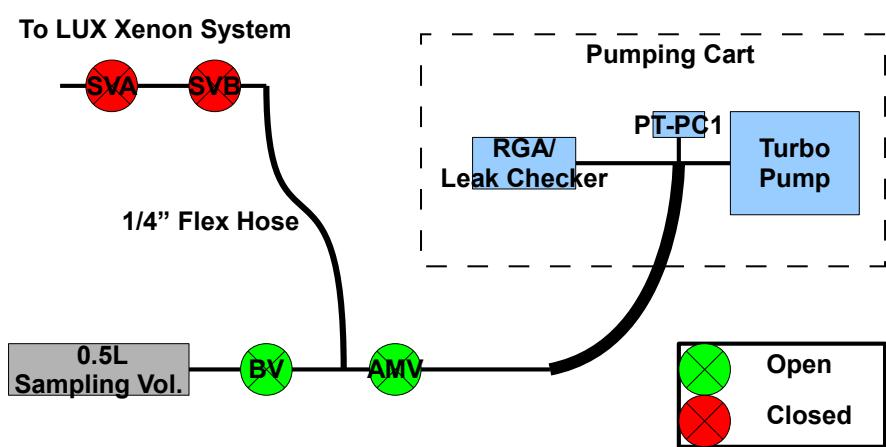

Figure 6: Illustrated procedure for attaching the sampling manifold to the LUX xenon system
5. Set up the sampling plumbing according to Figure 6 and Figure 7.